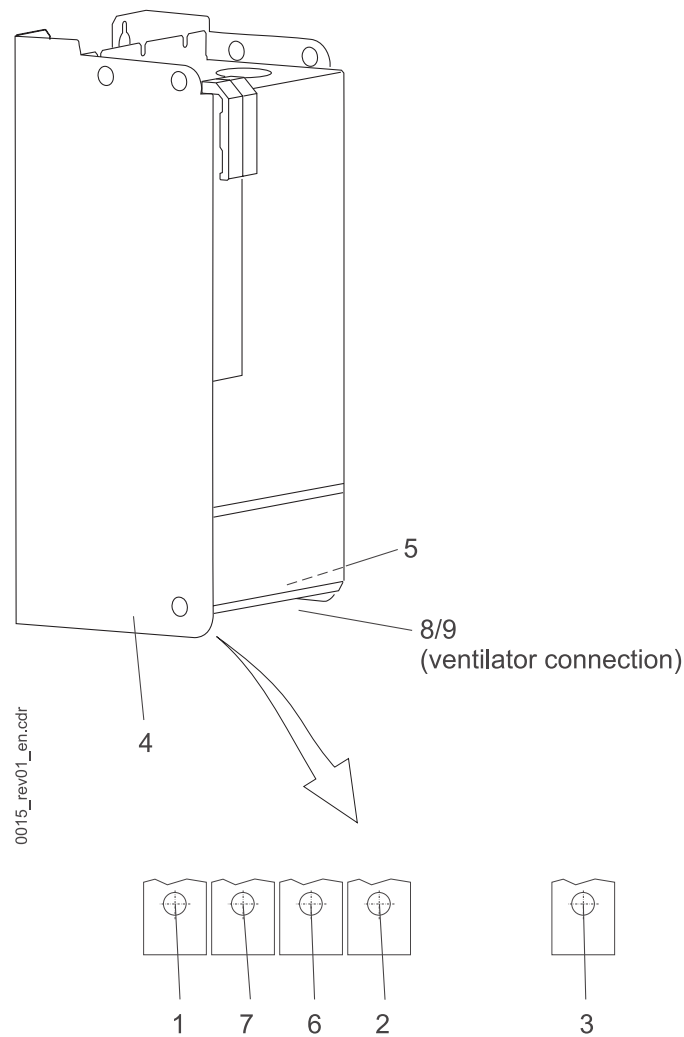

figure 15: Power terminals
The power connections are located at the bottom side of the unit (see ▶figure 15◀ on page 48).
2) position see ▶figure 15◀ on page 48